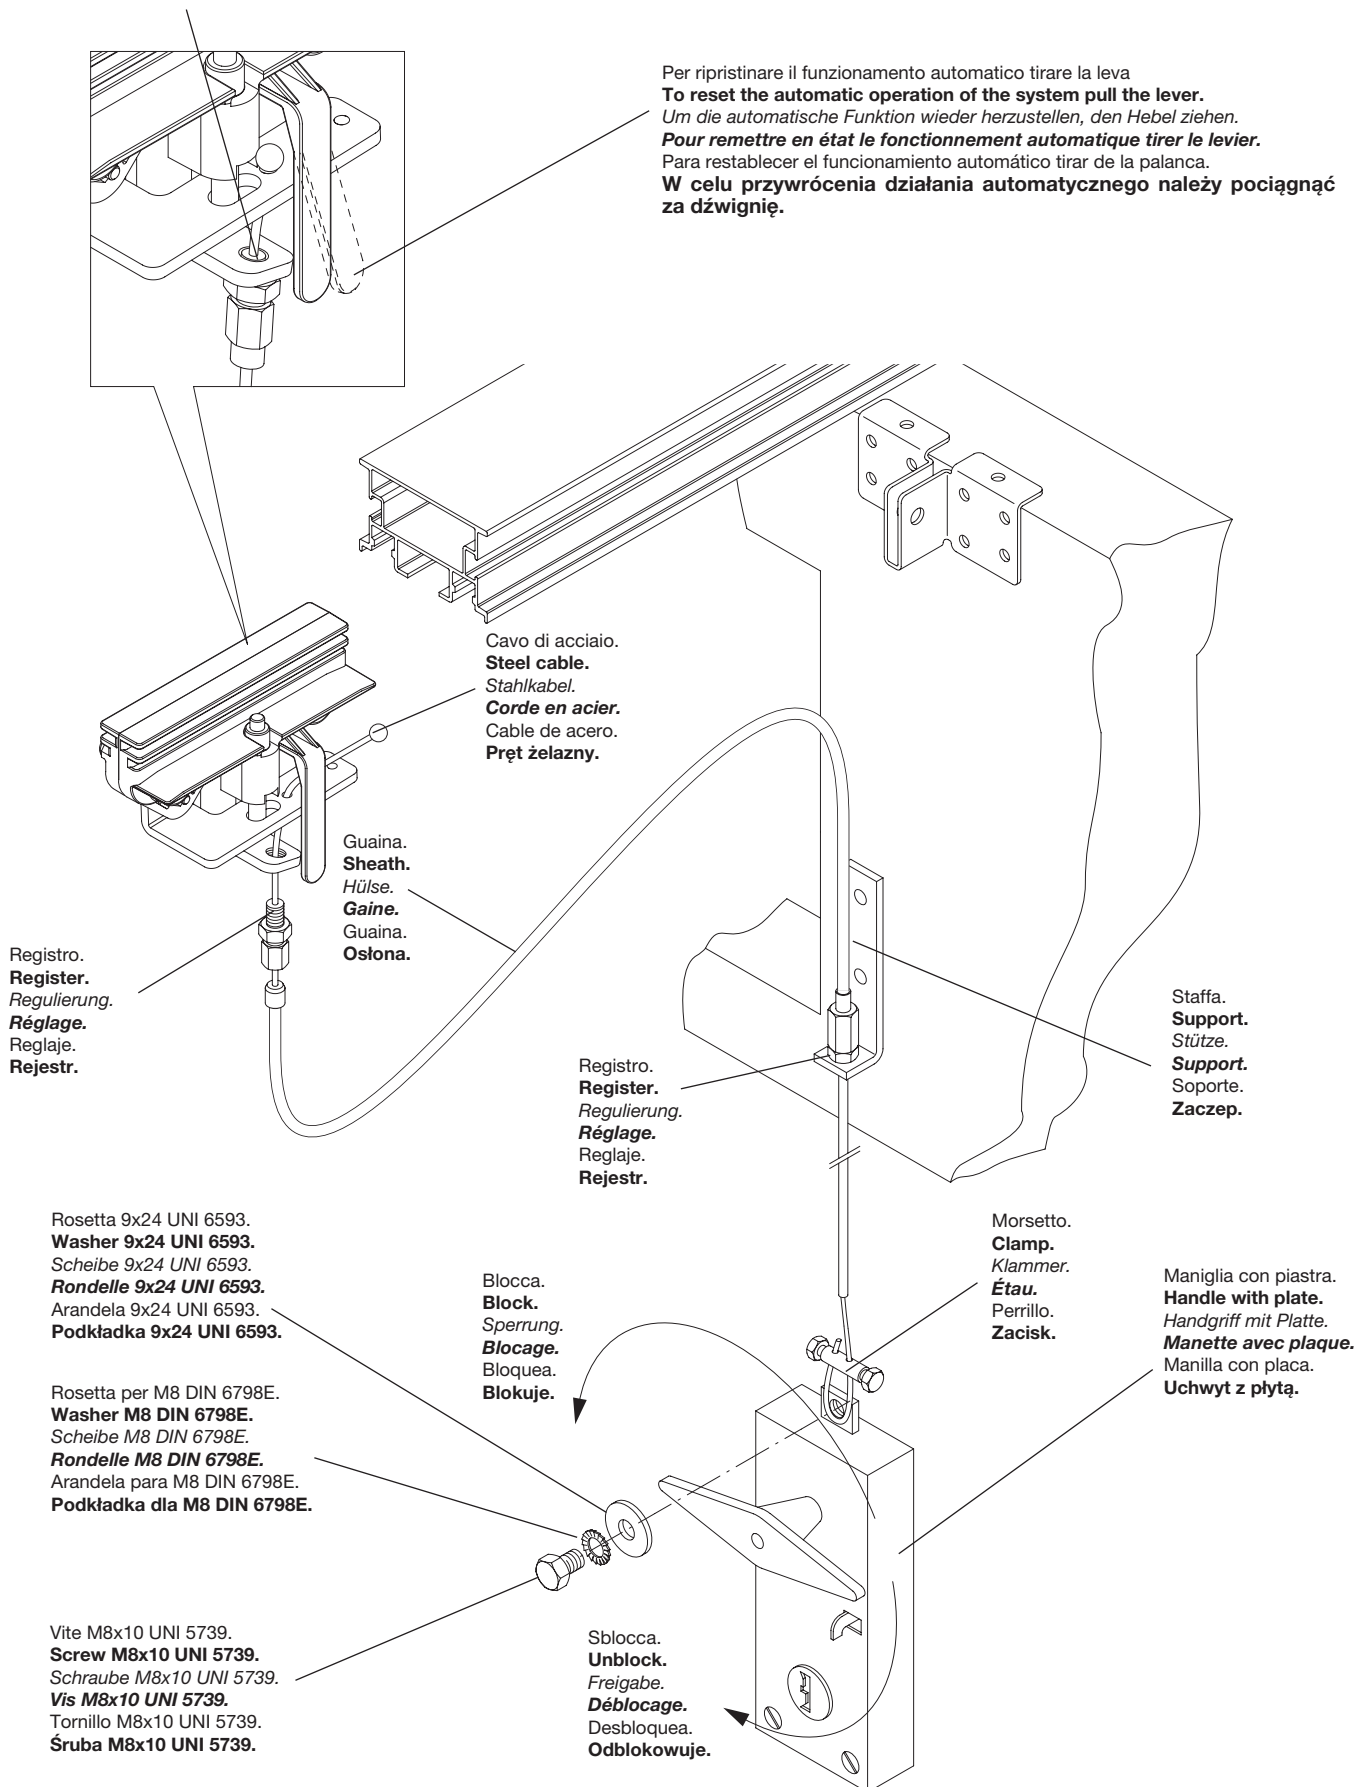

Fig.15
### 2 - Applicare il cavo di sblocco al AU.MS25" (Fig.15):
#### 2 - Mount the release cable onto AU.MS25" (Fig.15):
- Insert the metal cable in the slide, as indicated in Figure 15.